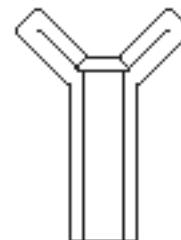

Fig 5
6. Wind the flaring tool cone into the tube and slowly tighten to complete the double flare. See Fig 5.